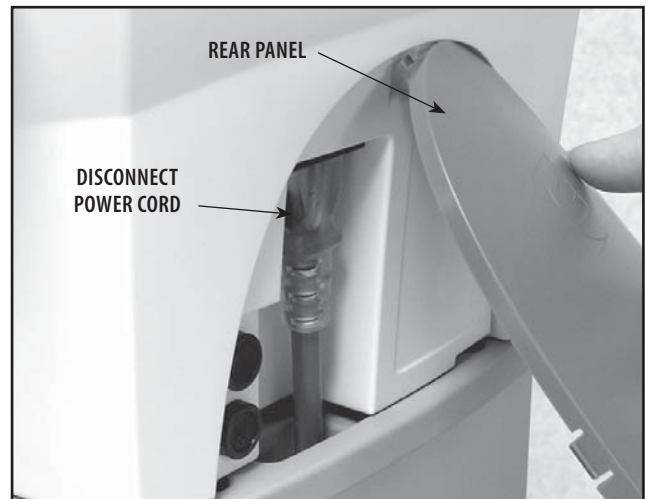

FIGURE 6.1
2. Remove the Rear Panel and disconnect the Power Cord from the System. **See Figure 6.1.**